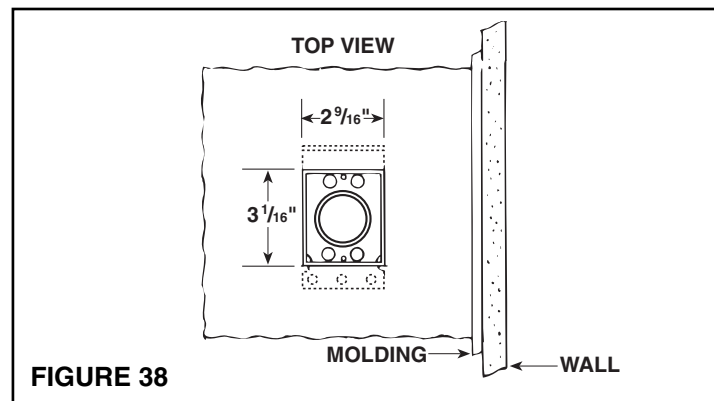

FIGURE 38
1. Refer to Figures 38 and 39. After floor inlet location has been selected, cut a 3 1/16" x 2 9/16" square hole in floor. Center line of inlet must be located at least 2 1/2" from wall to allow cover to be opened when hose is inserted.
2. Determine direction of tubing and attach appropriate flanged fitting to mounting bracket with four (4) screws supplied. **Be sure mounting bracket flange does not interfere with tubing and seal is securely in place.**